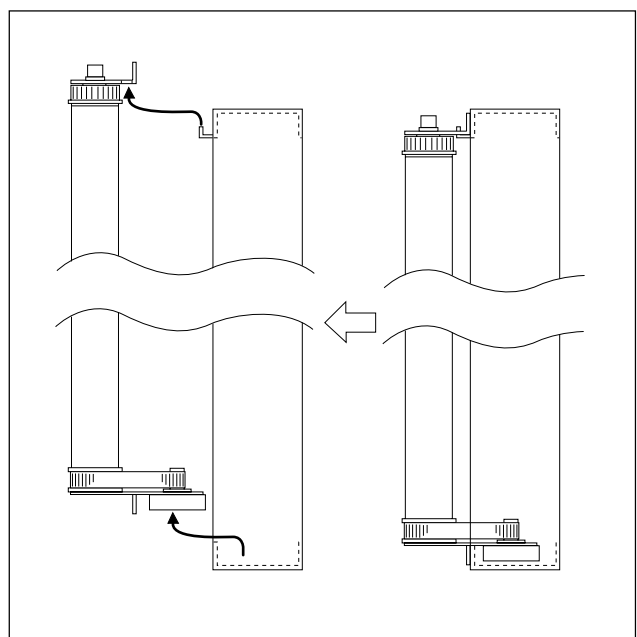

Fig. 15
2. Remove the Sheet Frame Unit as shown in Fig. 15.